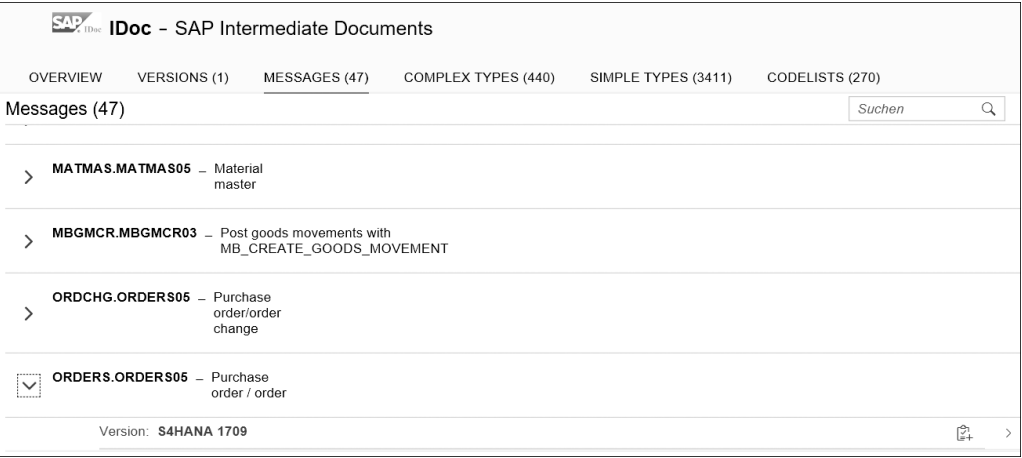

Figure 7.6 Message Interfaces in SAP IDoc Type System
5. The **MESSAGES** tab lists all available messages provided by this type system in a tree structure. As depicted in Figure 7.6, the **SAP IDoc** type system contains the most commonly used IDoc messages. Opening one of them in the tree structure shows the versions available for this message. As only one version is available in the SAP IDoc type system, only one version is shown for the selected message. In other type systems, several versions appear for one message.